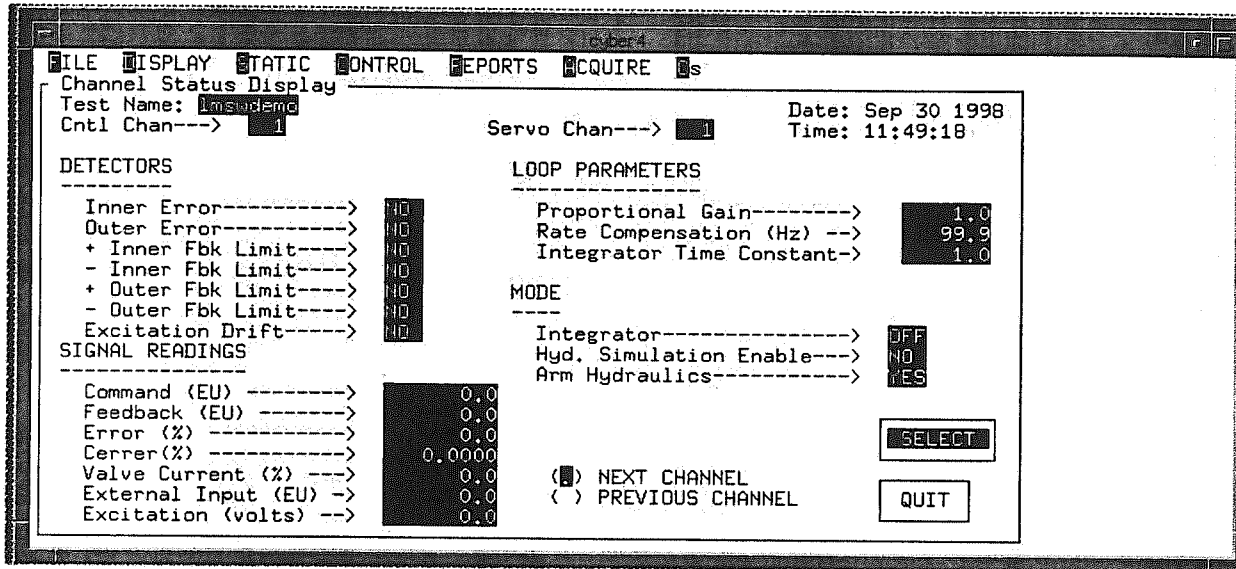

Figure 11-2 Channel Status Display
- Step 1:** Select **Channel Status** from the **DISPLAY** menu. **Figure 11-2** provides an example of a typical Channel Status display.